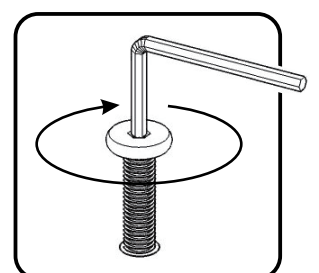

Figure 3
Attach Base (J) to unit with Head Cap Bolts (long), then flip Locks. (See Figure 3)